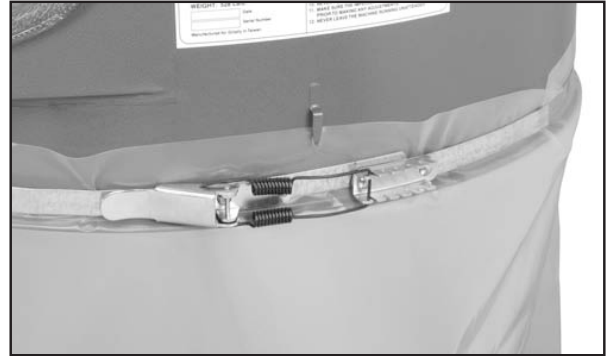

Figure 34. Installing the lower bag.
11. Slip the bottom plastic collection bag over the bottom edge of the collector and snag it on the metal hooks, then tighten the clamp on the tightest notch possible (**Figure 34**).